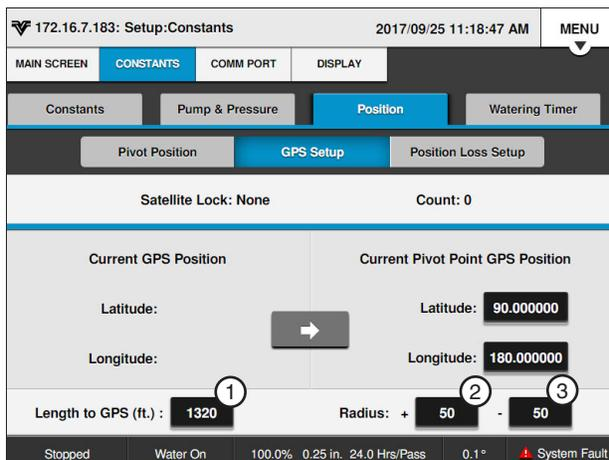

Figure 30-1 GPS Screen
1. Push **Menu**, **Setup**, **Constants**, **Position** and **GPS Setup** to display the GPS Setup screen. Refer to Figure 30-1.
3. Using the numeric keypad, enter the length from the pivot point to the GPS antenna or GPS tower box. Do not enter the pivot length. The default is 1320 ft (402.3 m) and the range is 10 to 6554 ft (3.0 to 1997.6 m). Refer to Figure 30-1.
6. Using the numeric keypad, enter the Plus tolerance for the length outside the GPS antenna that the panel will accept satellites. The default is 50 ft (15.2 m) and the range is 10 to 6554 ft (3.0 to 1997.6 m). A setting of 50 ft (15.2 m) or more is recommended to allow for variation in the GPS signal if Wide Area Application Services (WAAS) is unavailable. Refer to Figure 30-1.